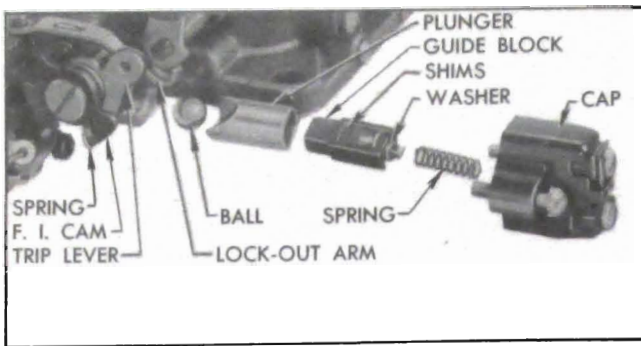

Figure 3-51—Fast Idle Cam and Vacuum Switch Parts
17. Remove accelerator vacuum switch terminal cap and switch return spring, then lift out switch guide block with contact spring and shims. Do not lose timing shims and the spring washer on contact spring. Turn body flange over to allow plunger and ball to drop into hand. See figure 3-51.
9. Place fast idle cam and cam trip lever over fast idle screw so that tongue on trip lever is held in the notch in cam by the hooked end of cam spring, then install parts on body flange with arm of trip lever placed under the auxiliary throttle lock-out arm. See figure 3-51.
11. Place switch ball in body flange. Place guide block in switch plunger and install in body flange with *grooved side of plunger upward* toward main body flange. Install switch return spring and terminal cap, holding cap down while installing screws with lockwashers. See figure 3-51.